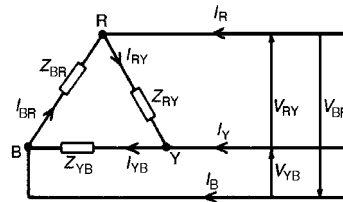
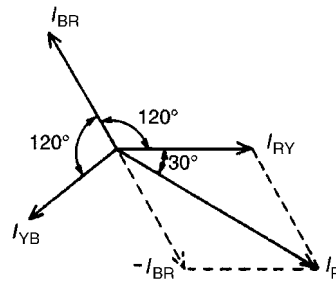

Figure 20.10
Figure 20.11
- (i) A delta (or mesh) connected load is shown in Fig. 20.10 where the end of one load is connected to the start of the next load.
- (ii) From Fig. 20.10, it can be seen that the line voltages V_{RY} , V_{YB} and V_{BR} are the respective phase voltages, i.e. for a delta connection:
- (iii) Using Kirchhoff's current law in Fig. 20.10, $I_R = I_{RY} - I_{BR} = I_{RY} + (-I_{BR})$. From the phasor diagram shown in Fig. 20.11, by trigonometry or by measurement, $I_R = \sqrt{3} I_{RY}$, i.e. for a delta connection: